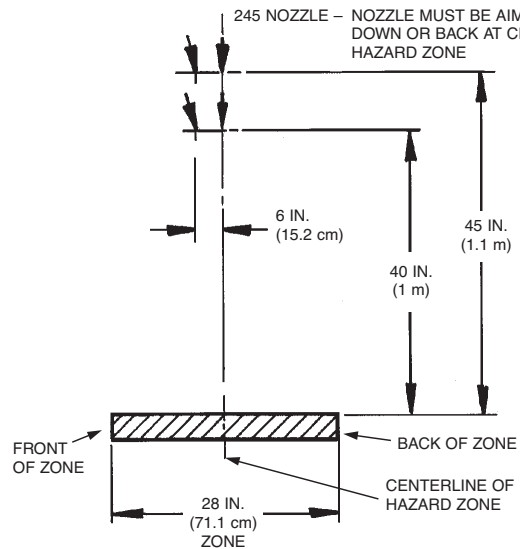

FIGURE 91c
3. The overlapping appliance nozzles must be located 40 in. to 45 in. (1 m to 1.1 m) above the top surface of the protected appliances. See Figure 91c.
4. The overlapping appliance nozzles must be located 0 in. to 6 in. (0 cm to 15.2 cm) forward of the centerline or aimline of the selected hazard zone. See Figure 91c.